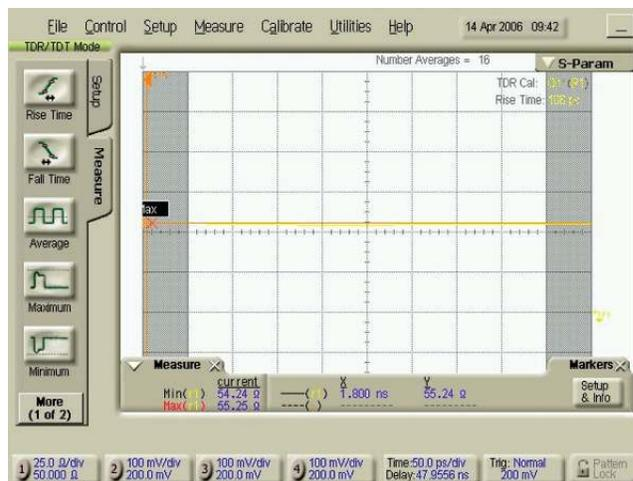

Figure 6. Cable Pair Match
- 3 Using the min/max measurement functions measure and note the minimum and maximum impedance for channel 1 (Z1 min and Z1 max). See Figure 6
- 3 Using the min/max measurement functions measure and note the minimum and maximum impedance for channel 2 (Z2 min Z2 and max). See Figure 6.
- Using the min/max measurement functions measure and note the minimum and maximum impedance for channel 3 (Z3 min and Z3 max). See Figure 6.
- Using the min/max measurement functions measure and note the minimum and maximum impedance for channel 4 (Z4 min and Z4 max). See Figure 6.